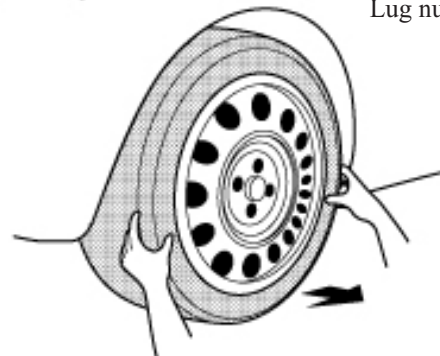

Fig. A-4
-  5. Remove OE wheel and tire assembly from vehicle. Wear safety glasses while removing wheels. (Fig. A-4)